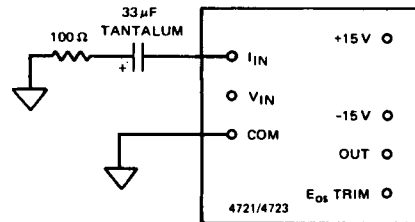

Figure 7. Four Decade Operation
① Nonlinearity is deviation from ideal transfer function when Full Scale Factor has been trimmed to +10,000 V and Input Offset Voltage to 0.10 V.
② With external resistor and capacitor, the 4721 and 4723 will operate linearly from V_{in} = 1 mV to +11 V, with f_{out} from 1 Hz to 11 kHz. See Figure 7.
③ Constant voltage at Zero trim pin.
With external resistor and capacitor the 4723 will operate linearly from $V_{in} = +1$ mV to +11 V, with f_{out} from 1 Hz to 11 kHz. See Figure 7.